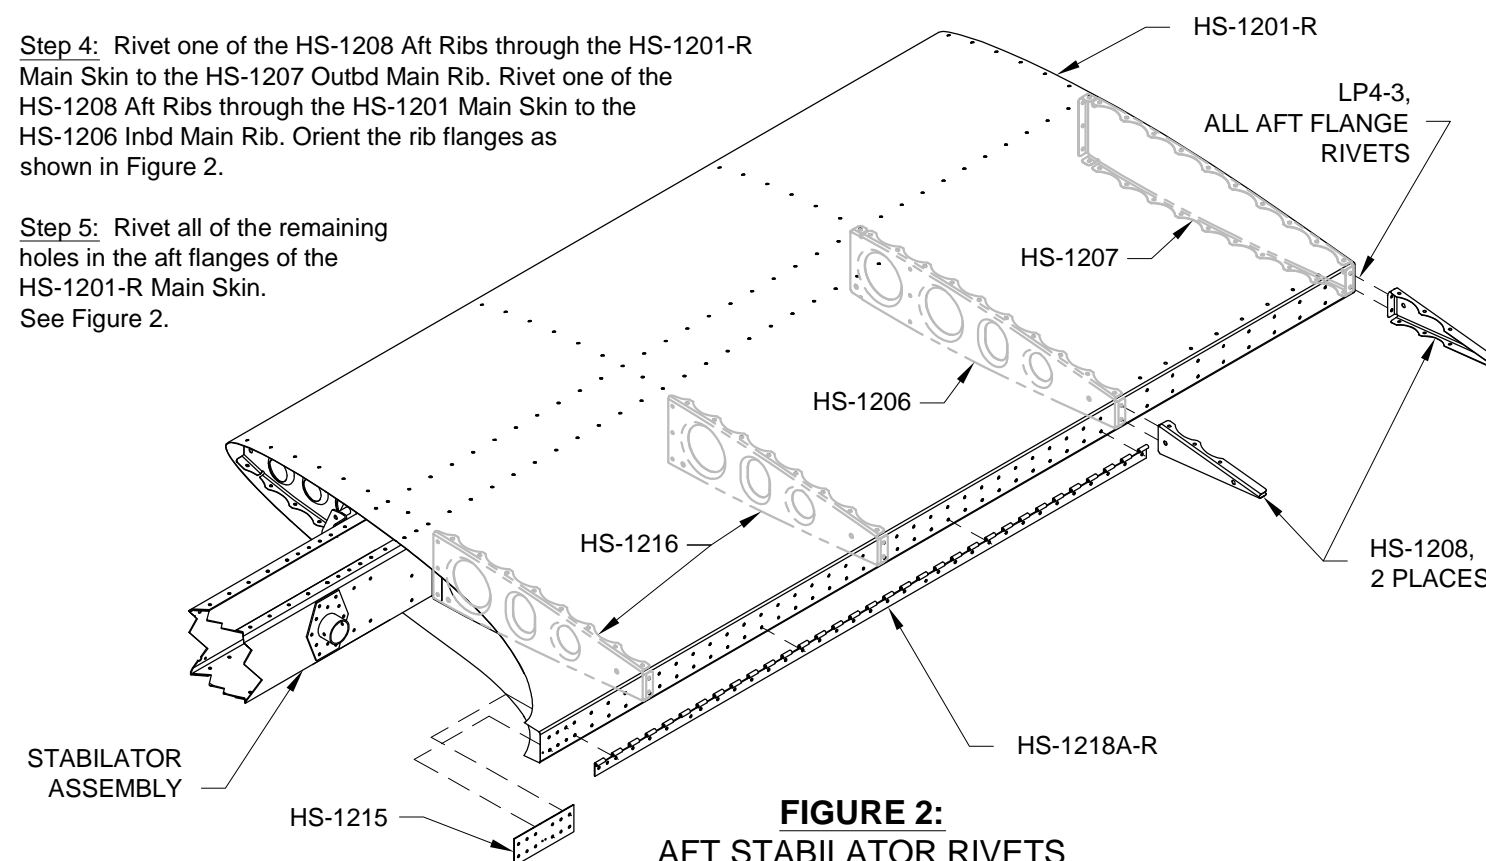

FIGURE 2:
Step 3: Rivet the HS-1218A-R Aft Hinge to the HS-1201-R Main Skin. Include the HS-1216 Aft Main Ribs when riveting the holes common to the aft hinge, main skin and aft main ribs. Include the HS-1215 Skin Splice Plate, on the inside surface of the aft flange, when riveting the holes common to the aft hinge, main skin and skin splice plate. See Figure 2.
Step 4: Rivet one of the HS-1208 Aft Ribs through the HS-1201-R Main Skin to the HS-1207 Outbd Main Rib. Rivet one of the HS-1208 Aft Ribs through the HS-1201 Main Skin to the HS-1206 Inbd Main Rib. Orient the rib flanges as shown in Figure 2.
Step 5: Rivet all of the remaining holes in the aft flanges of the HS-1201-R Main Skin. See Figure 2.
NOTE: Figure 2 illustrates the installation of the HS-1217 Aft Skin for the right side of the Stabilator Assembly. Installation for the aft skin on the left side is a mirror of the right.